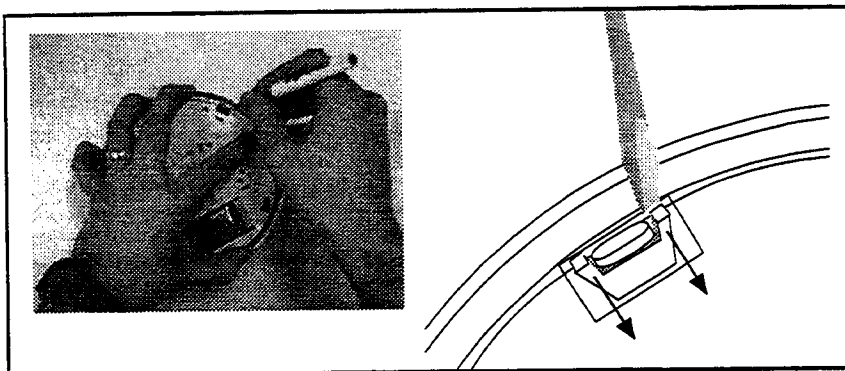

Figure 2. Clip removal
2. As you gently unclip the four cover clips with a small screw driver or pen, continually push the base away from cover as shown in Figure 2.